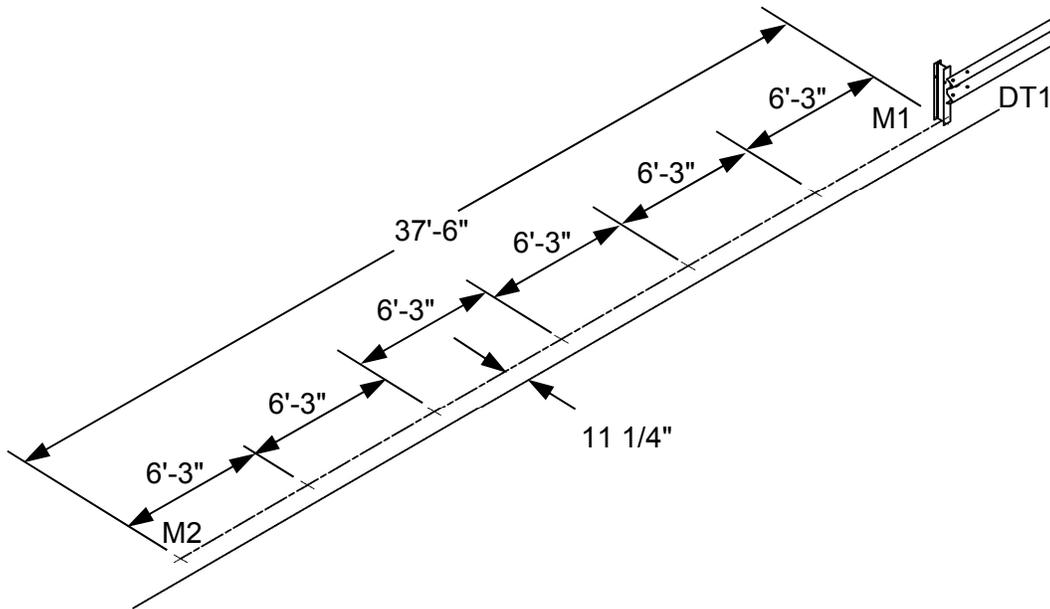

Figure 5 - Post Spacing for TREND® 350 Tangent End Terminal
- 1.6 From location (M2), measure off the rest of the system post locations (i.e., Posts 2 to 6, p. 12), towards the first guardrail post, at 6'-3" intervals (6 total post locations) (Figure 5).